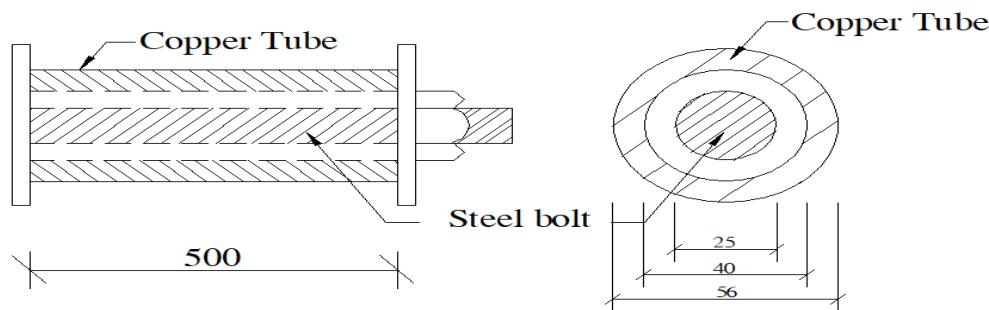

Figure 3
b) A steel bolt of 25 mm diameter passes centrally through a copper tube of internal diameter 40 mm and thickness 8 mm. If the length of the composite section is 500 mm, what stresses will be introduced by 60° turn, if the pitch of thread is 4 mm. Assume $E_s = 200$ GPa and $E_c = 100$ GPa. Refer Figure 3. 10